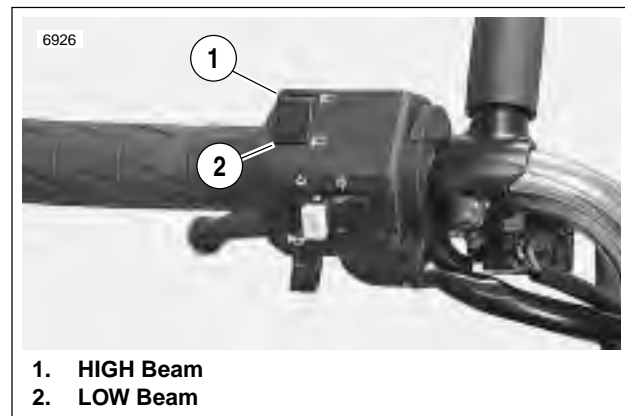

Figure 1-52. Headlamp Switch
7. See Figure 1-52. Turn ignition switch to IGN. Set handlebar headlamp switch to HIGH beam position (1).